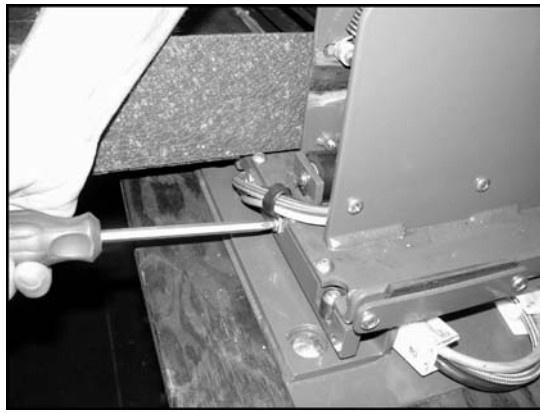

FIGURE 3-12
7. Refer to **Figure 3-12**. Remove clamp-attaching screw on front of roller rail.